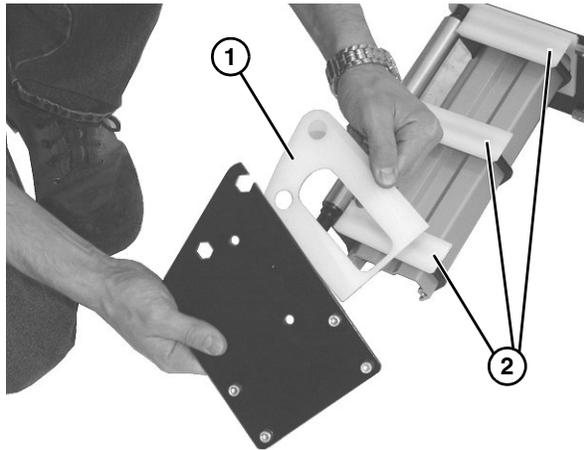

Figure 59
- Check idler terminal assembly on each side (**Figure 59, item 1**) for wear. If worn, replace.
- Remove and replace wear guides (**Figure 59, item 2**) if worn. When replacing, secure onto pins on each support plate.